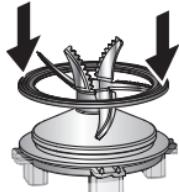

fig. 2
- Place the assembly (**e1+e2**) on the base of the jug (**e3**). Lock it by rotating the blade unit through a quarter turn in an anticlockwise direction (**Fig.2**).